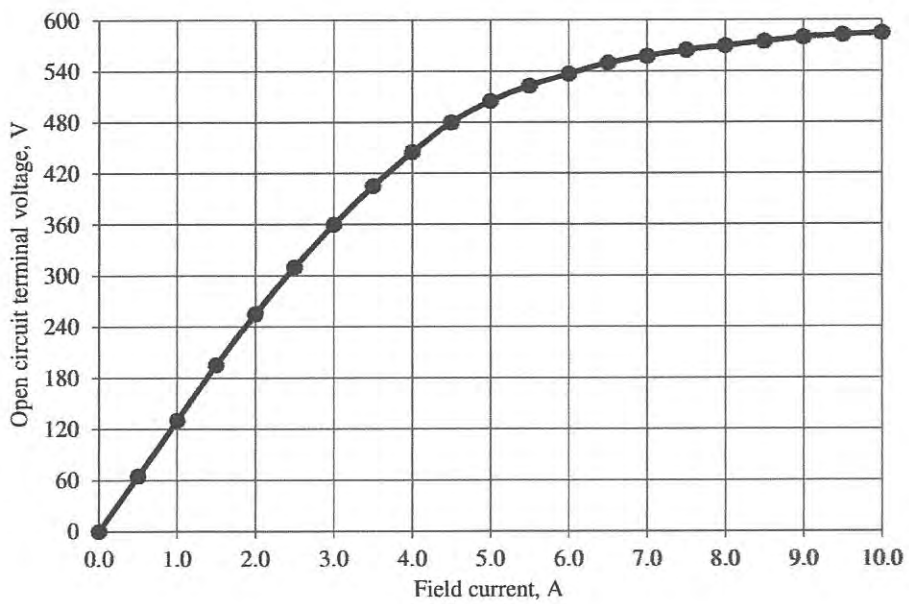

Figure Q3(b)
- Q3** (a) (i) List **TWO (2)** common approaches to supply DC power source to the field circuit on the rotor of a synchronous generator. (2 marks)
- (ii) Outline **FIVE (5)** steps or procedures to determine induced voltage parameter of a synchronous generator. (5 marks)
- (b) A 480 V, 200 kVA, 0.8 power factor lagging, 50 Hz, two-pole, Y-connected synchronous generator has a synchronous reactance of 0.25Ω and an armature resistance of 0.03Ω . Its friction and windage losses are 6 kW, and its core losses are 4 kW. The field circuit has a dc voltage and maximum I_F of 200 V and 10 A, respectively. The resistance of the field circuit is adjustable from 20Ω to 200Ω . The Open Circuit Characteristic (OCC) of this generator is shown in **Figure Q3(b)**.
- (i) Predict the field current when the generator is running at no load and full load condition using OCC in **Figure Q3(b)**. (2 marks)